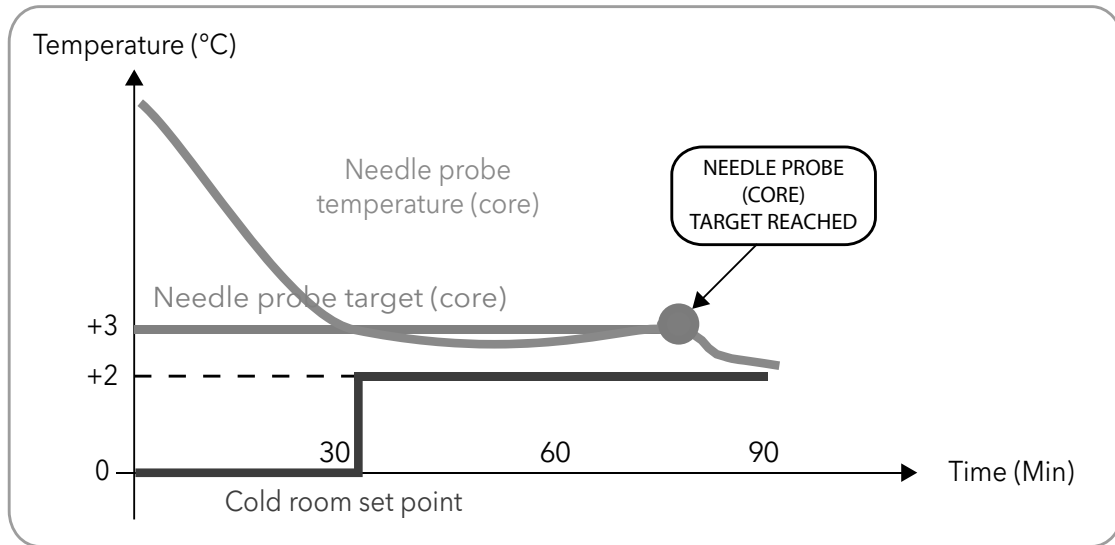

Fig. 10. Positive program with soft blast chill mode
- positive (cooling), with positive reference temperature (target temperature), and soft blast chill mode (**Fig. 10 on page 65**);
The numeric values shown in **Fig. 10 on page 21** are the default values.